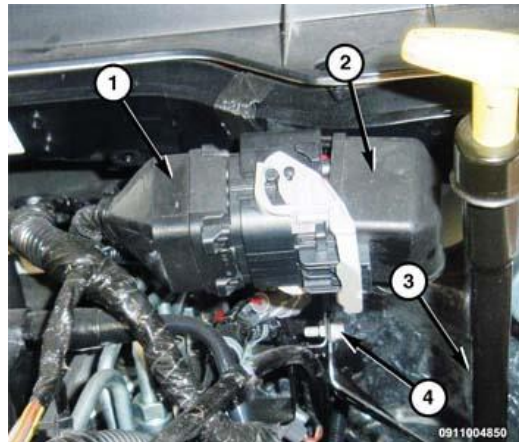

Figure 6 – Bulkhead Connector
16. Cut the cable tie and position aside the bulkhead connector (1) (Figure 6).